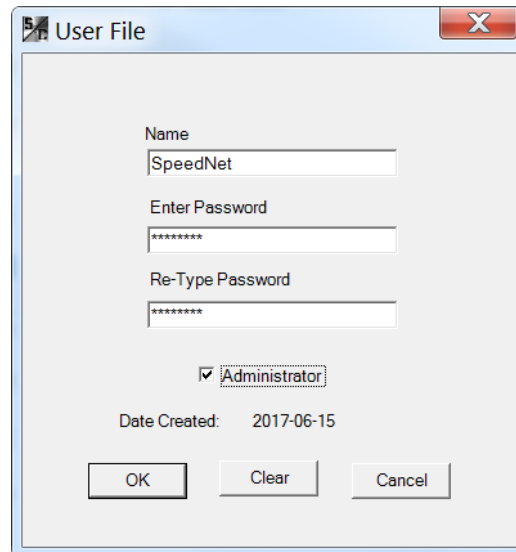
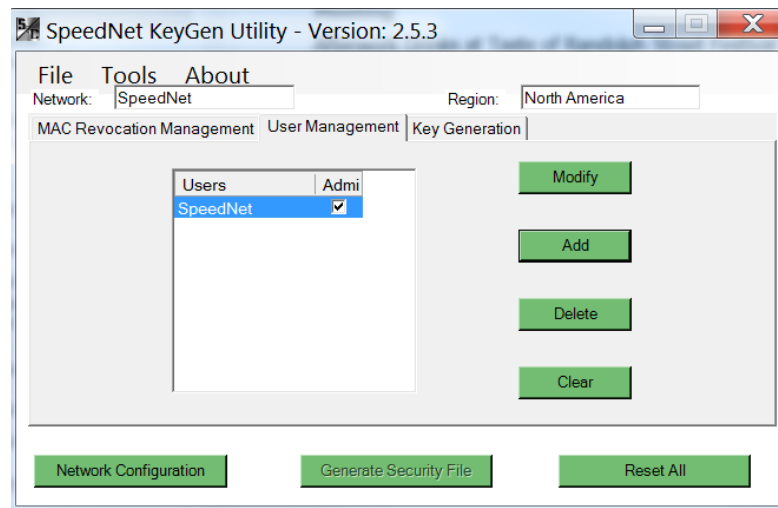

Figure 7. KeyGen User File dialog box.
Figure 8. KeyGen User added.
STEP 1. Click the **Add** button on the **User Management** window. The User File dialog box will open. See Figure 7.
STEP 4. Retype the password to confirm the previously entered password. Click to check the **Administrator** checkbox if the user will be an administrator. Click the **OK** button. See Figure 7. The newly added user will appear in the KeyGen **User Management** window. See Figure 8.